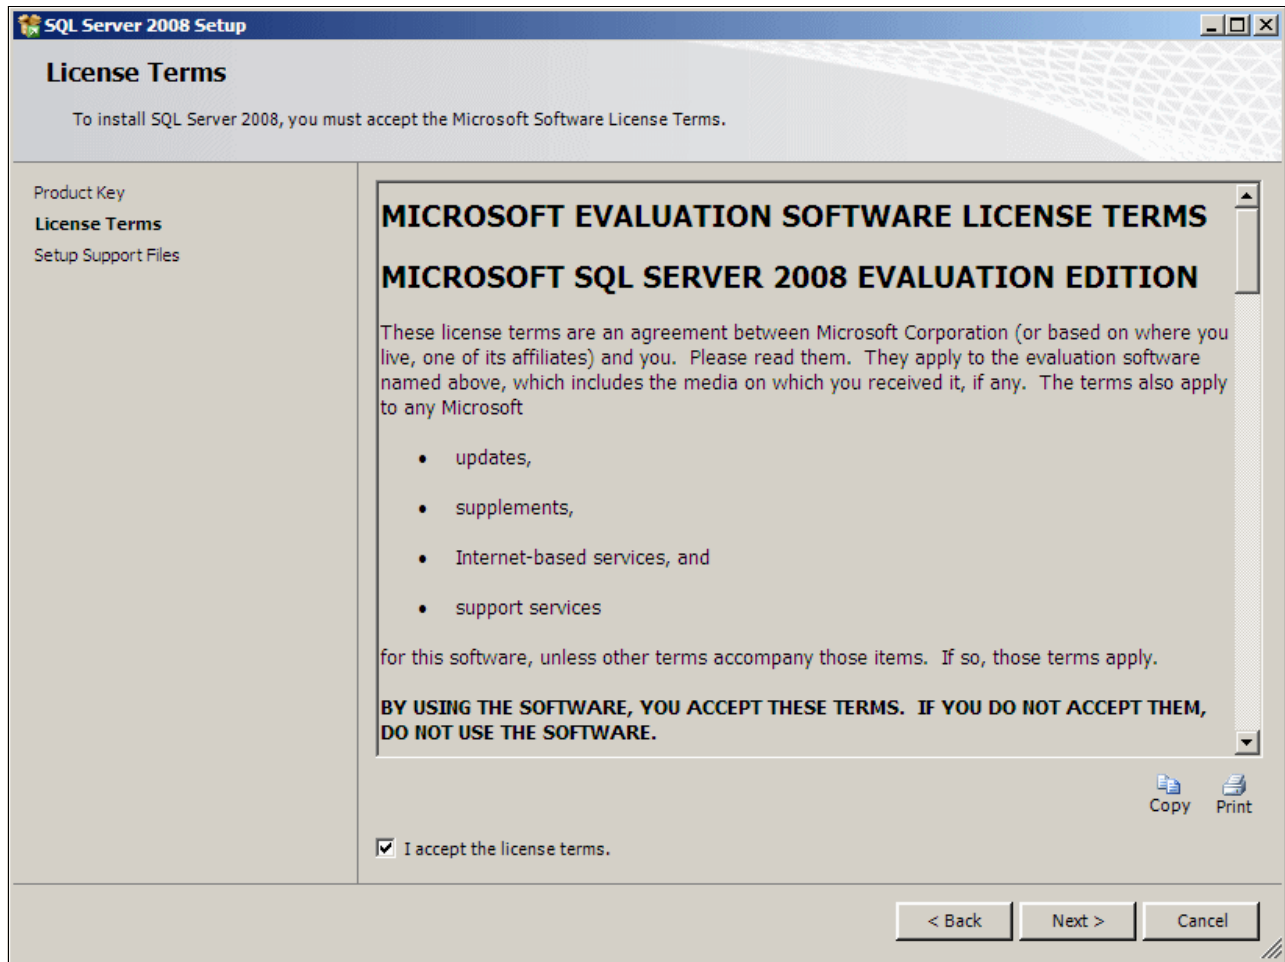

Figure 6-21 Microsoft licensing terms and conditions
6. The “License Terms panel (Figure 6-21) displays. Click the **I accept the license terms** check box. Click **Next**.